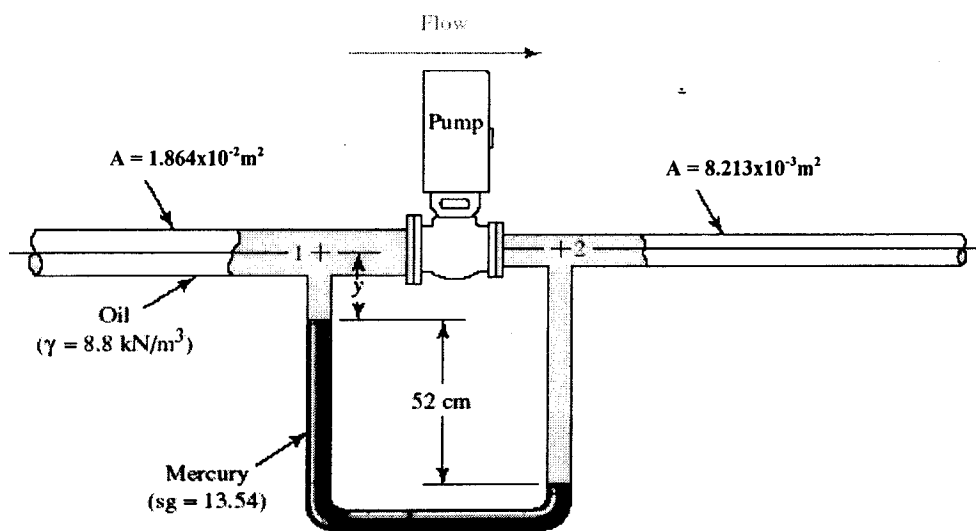

Figure 5 / Rajah 5
4. [a] For the pump test arrangement shown in Figure 5, determine the mechanical efficiency of the pump if the power input is measured to be 2.87 kW when pumping $125 \text{ m}^3/\text{h}$ of oil ($\gamma = 8.8 \text{ kN/m}^3$).